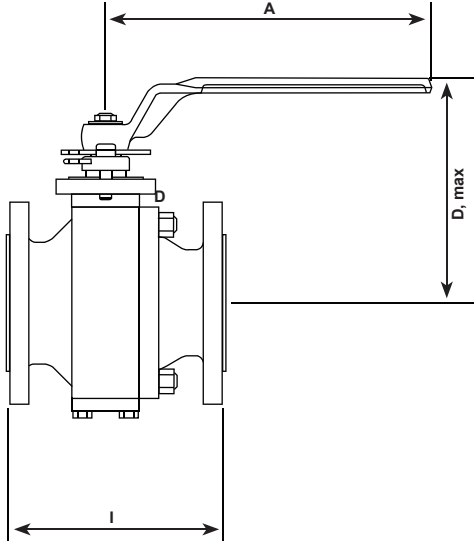

**Figure 4.** No Leakage Design
- **Secondary metal-to-metal seal**—Body and cap connections are sealed by gaskets. To prevent leakage in cases of fire, high temperature, and oscillations, metal-to-metal sealing is observed. See Figure 4.